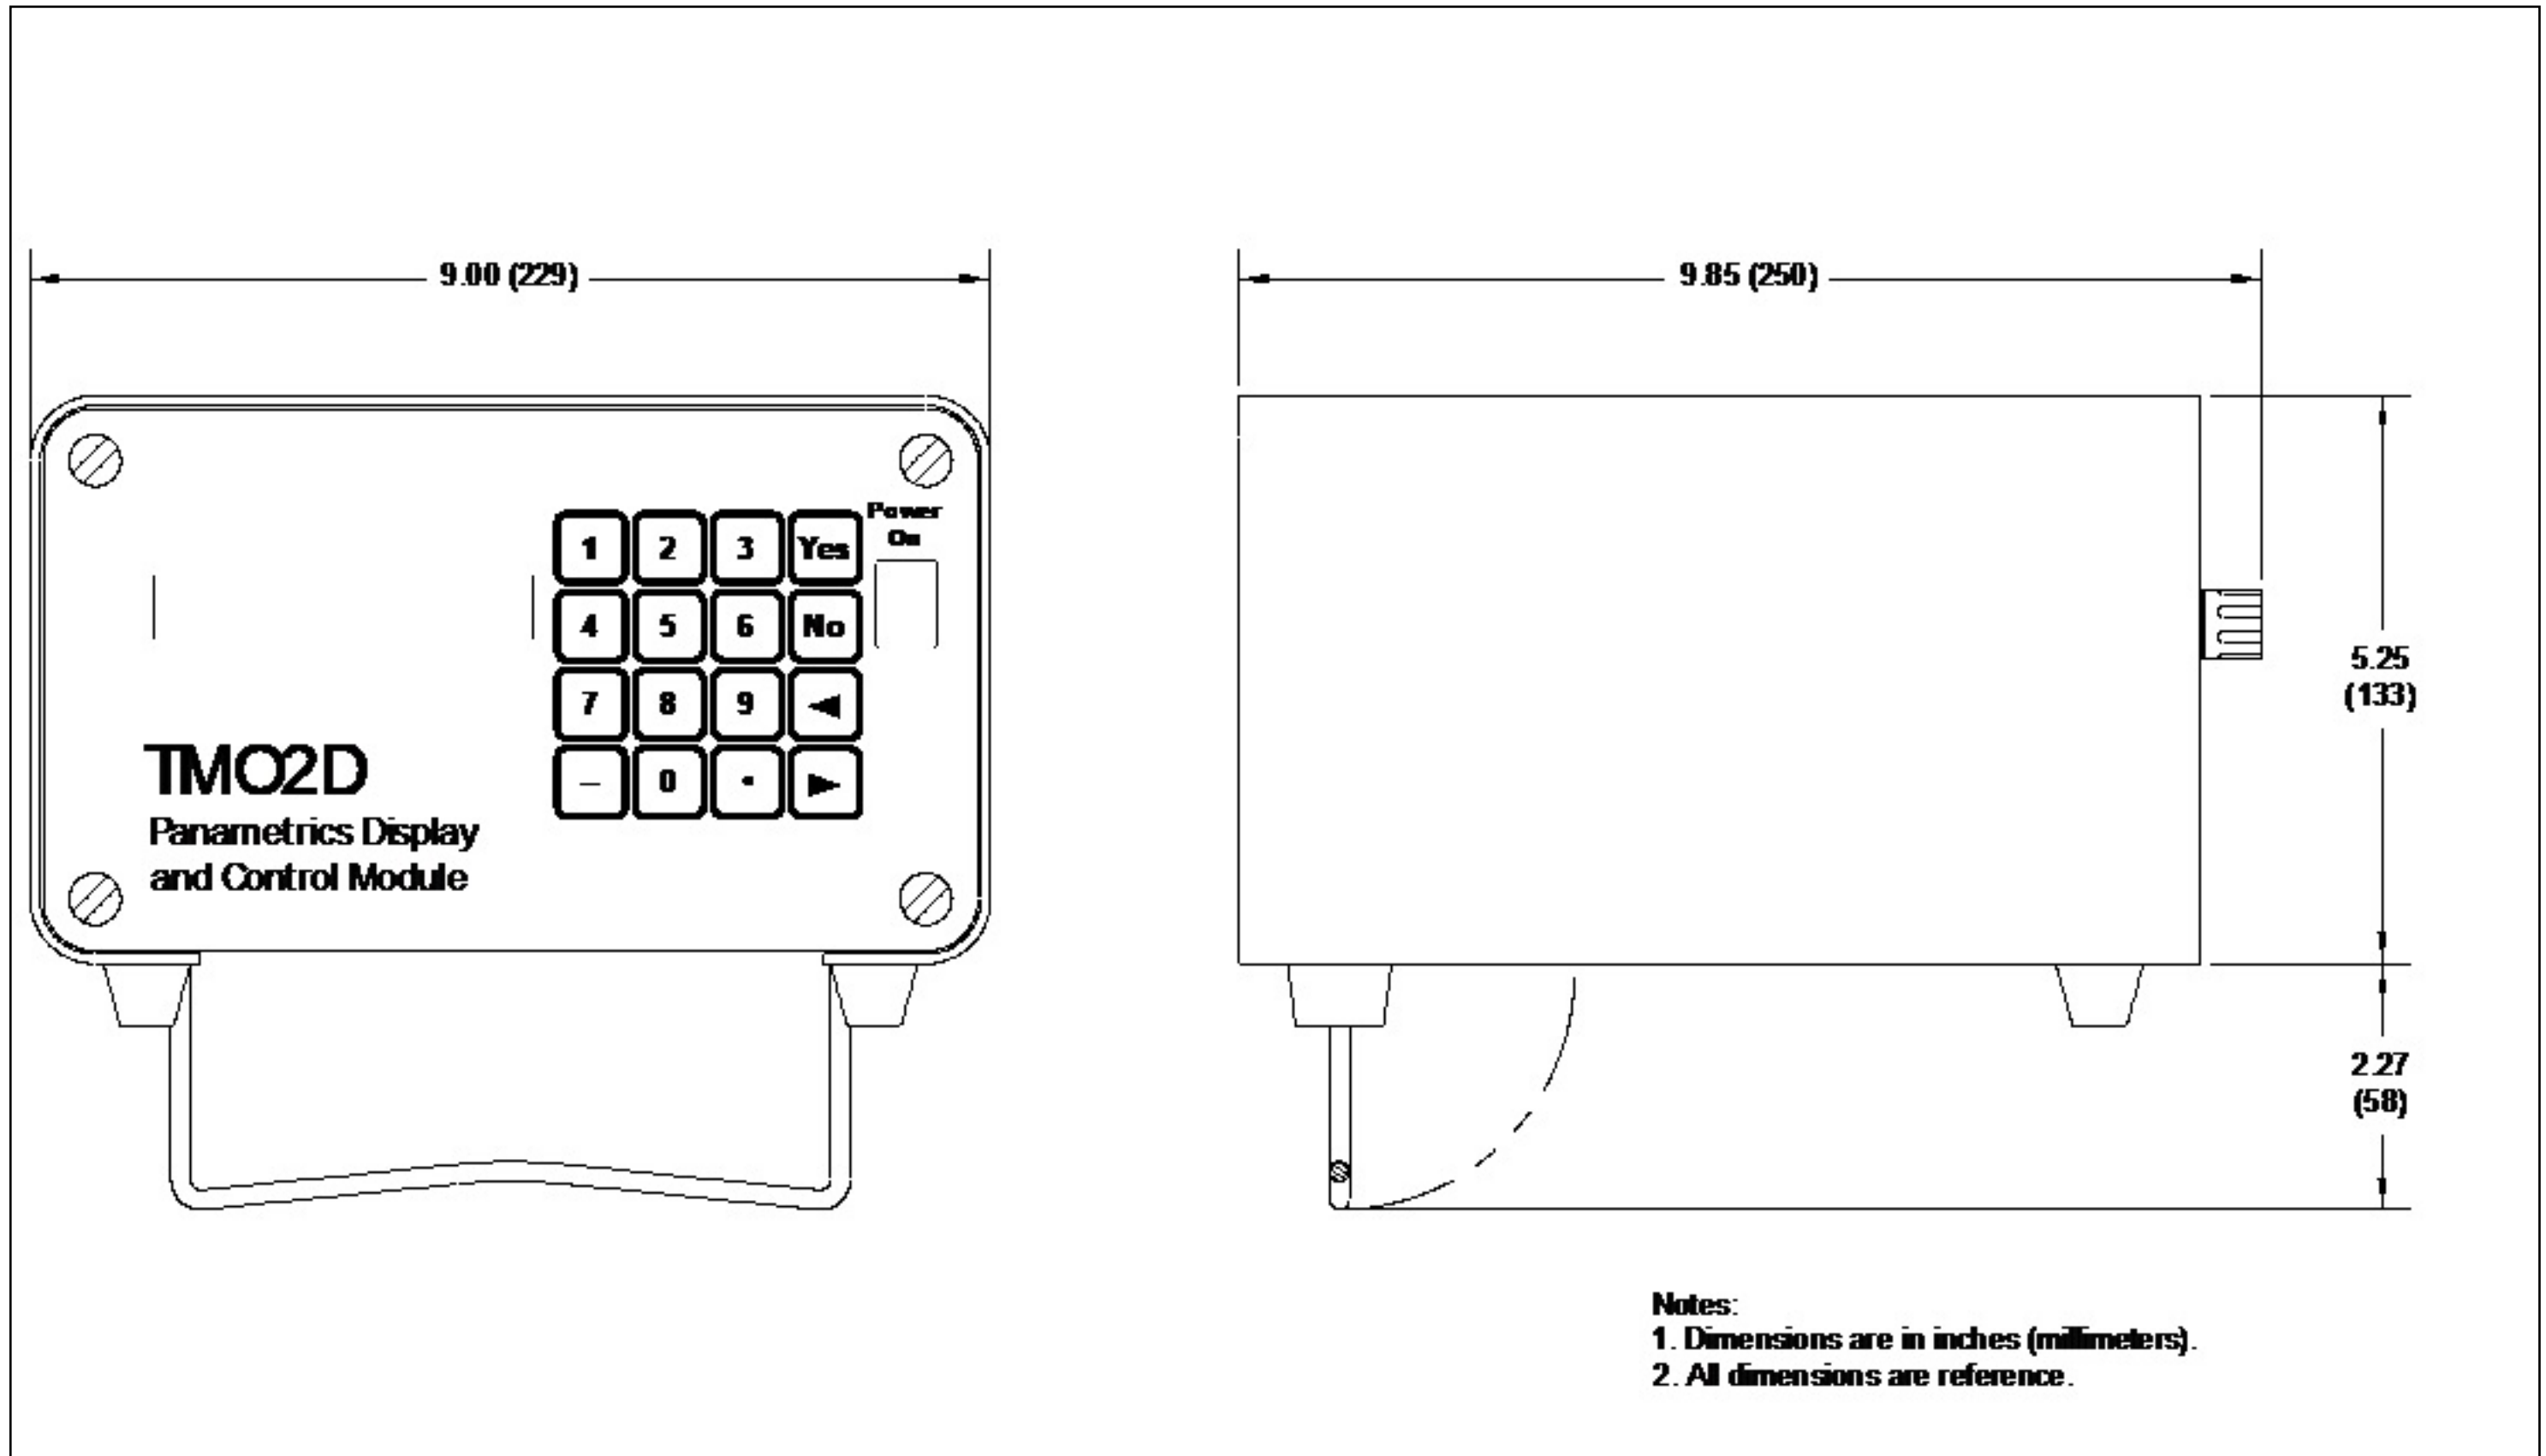

Figure 17: Bench Mount Outline (ref. dwg #712-221)
- Figure 17: Bench Mount Outline